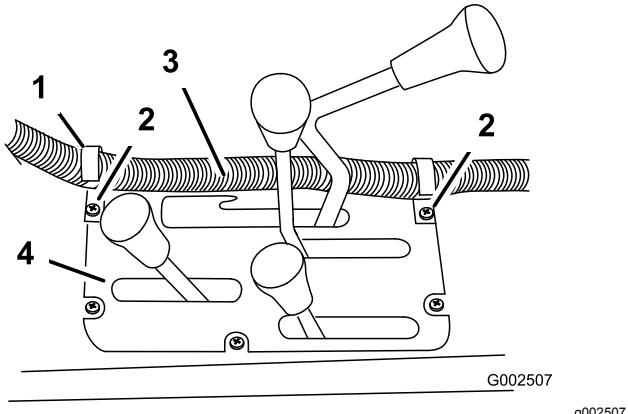
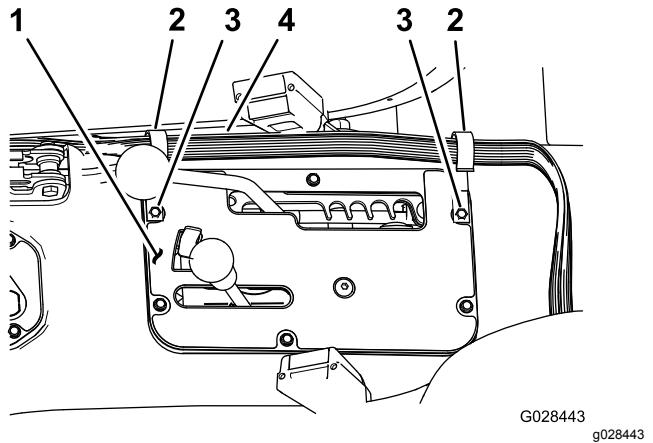

Figure 19
Figure 20
1. Install 2 J-clips in the center console at the points located in Figure 19 or Figure 20 using the existing screws.